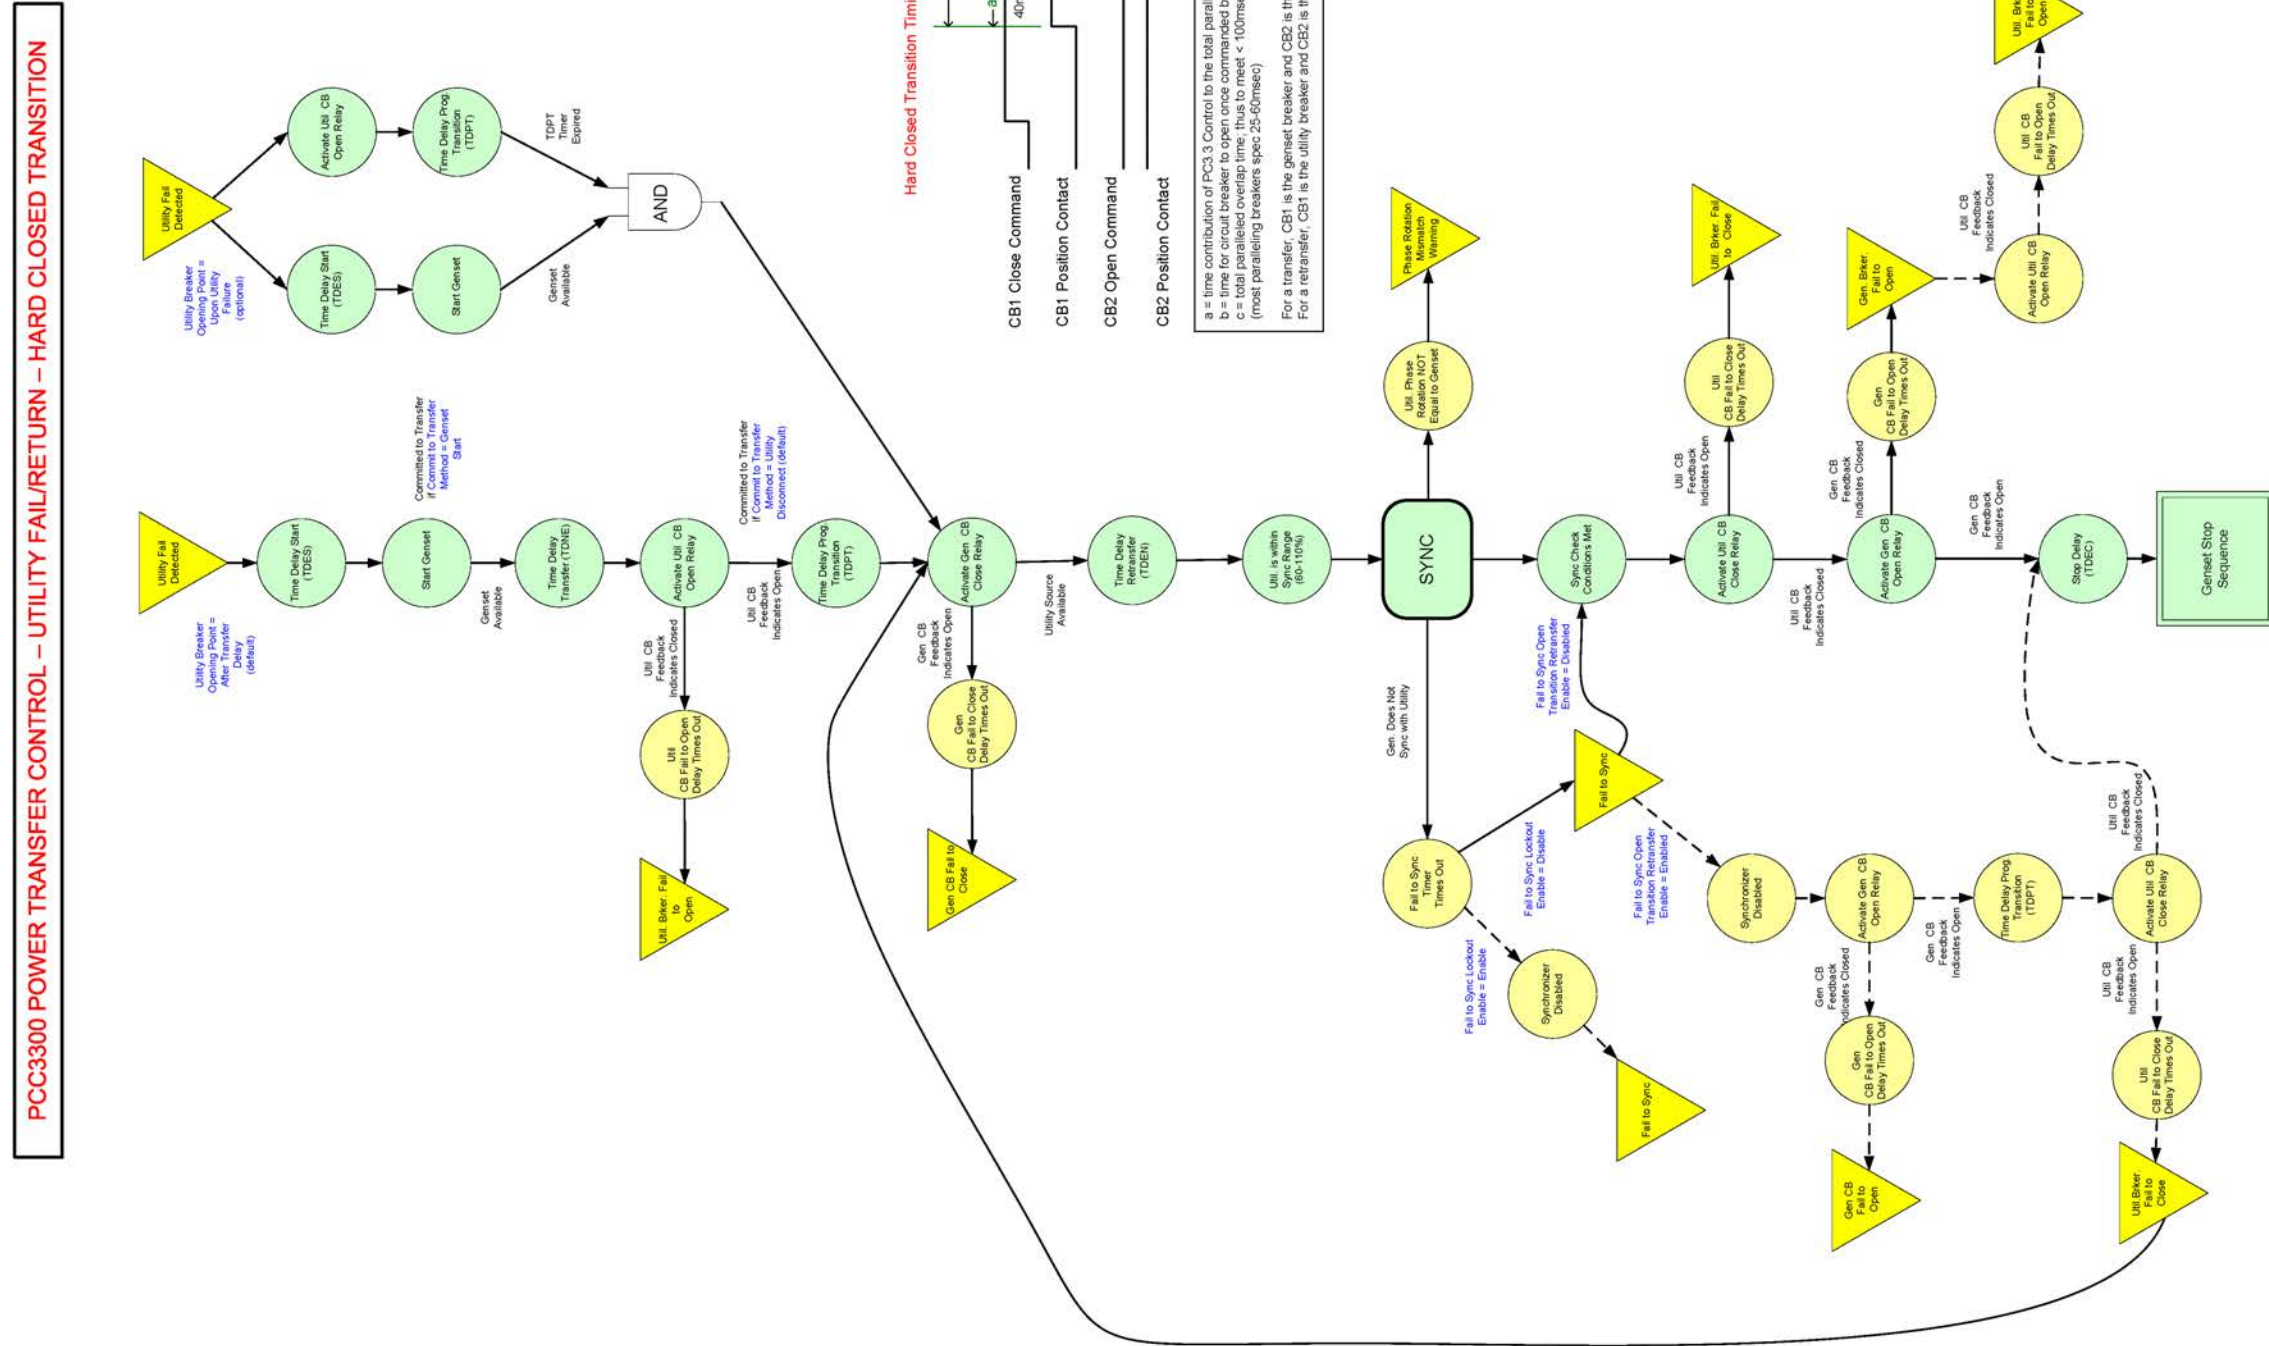

FIGURE 148. POWER TRANSFER CONTROL: UTILITY FAILURE/RETURN, HARD CLOSED TRANSITION
- Figure 148. Power Transfer Control: Utility Failure/Return, Hard Closed Transition 680